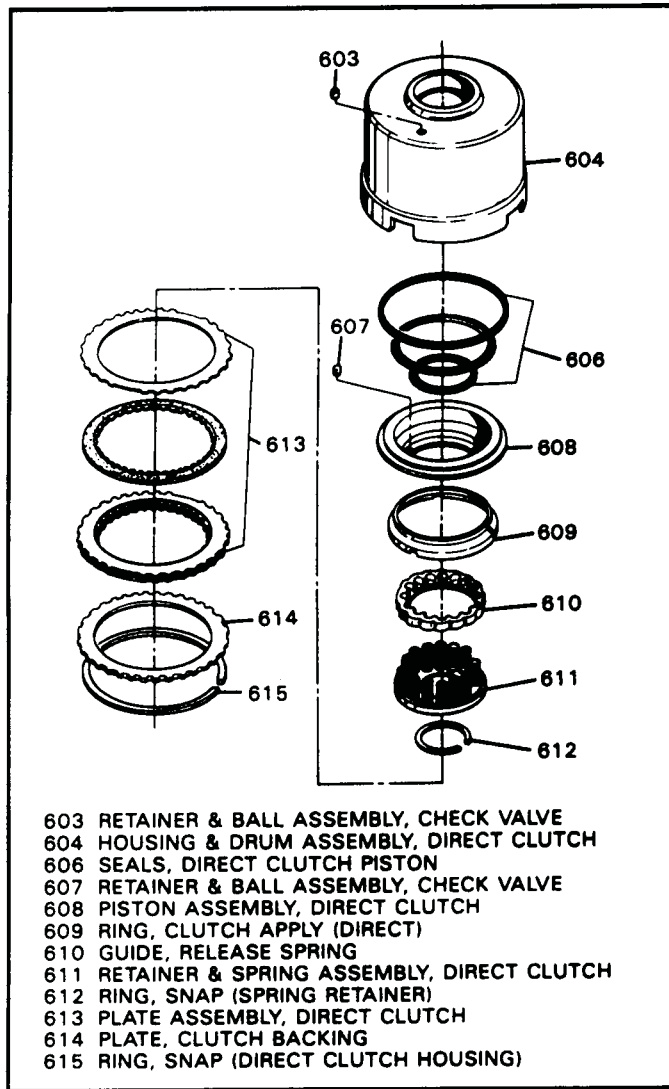

Figure 89
1. Clean and inspect all the direct clutch housing parts that are shown in Figure 89.
8. Install apply ring (609) into piston, as shown in Figure 89.
9. Install return spring guide (610) into piston, as shown in Figure 89.
10. Install spring retainer assembly (611) as shown in Figure 89.